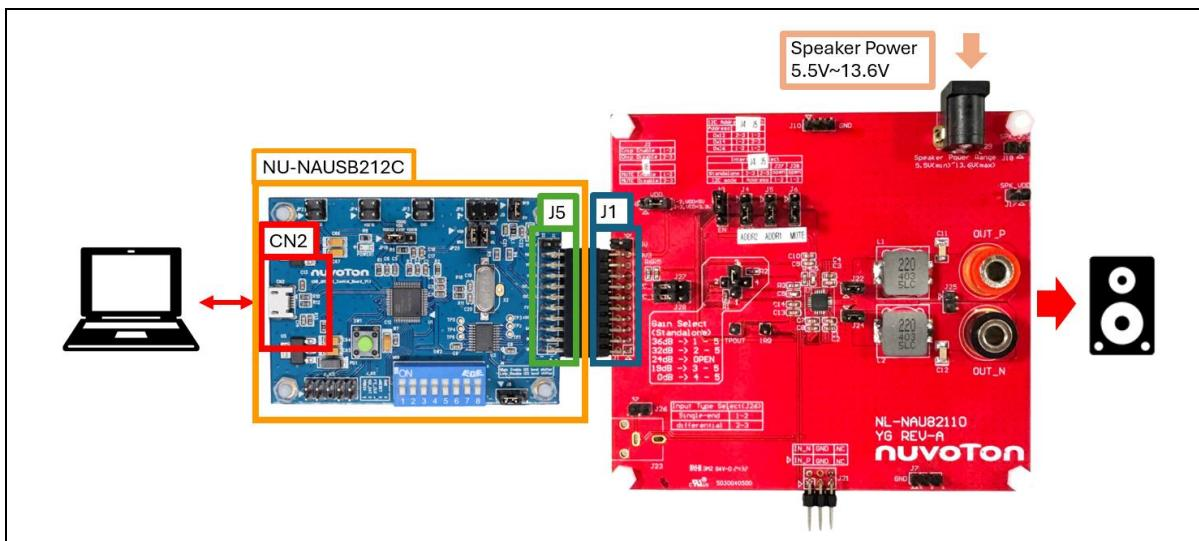

Figure 2-4 NU-NAUSB2I2C Connection
2. Connect J5 of NU-NAUSB2I2C to J1 of NL-NAU82110. Figure 2-4 is the diagram after two boards are connected to each other.